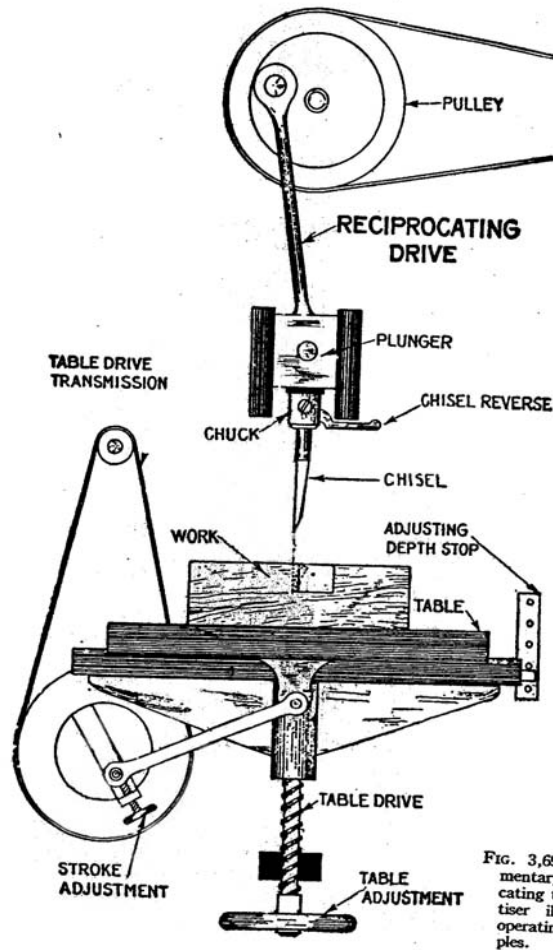
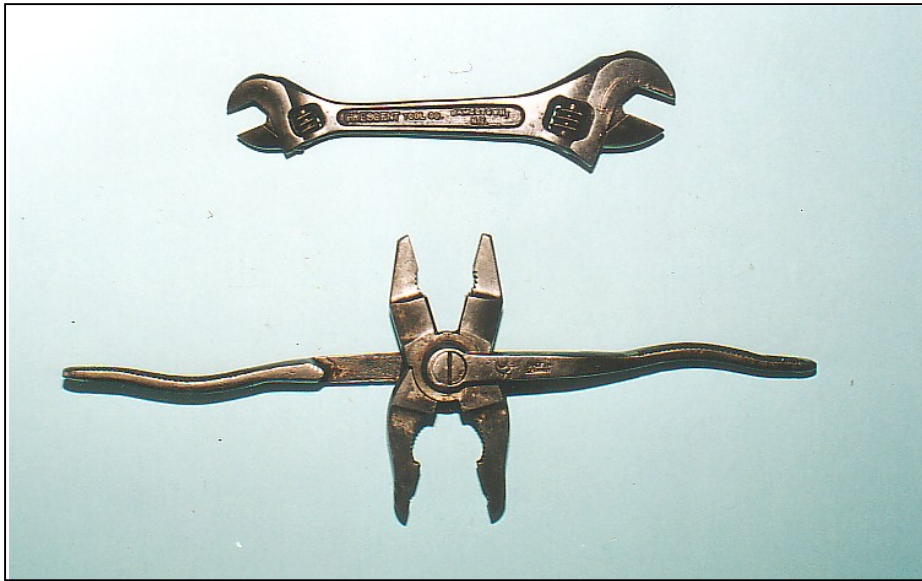
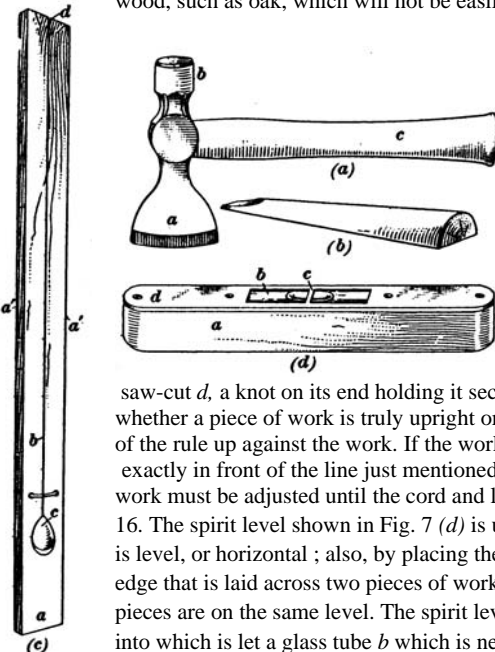
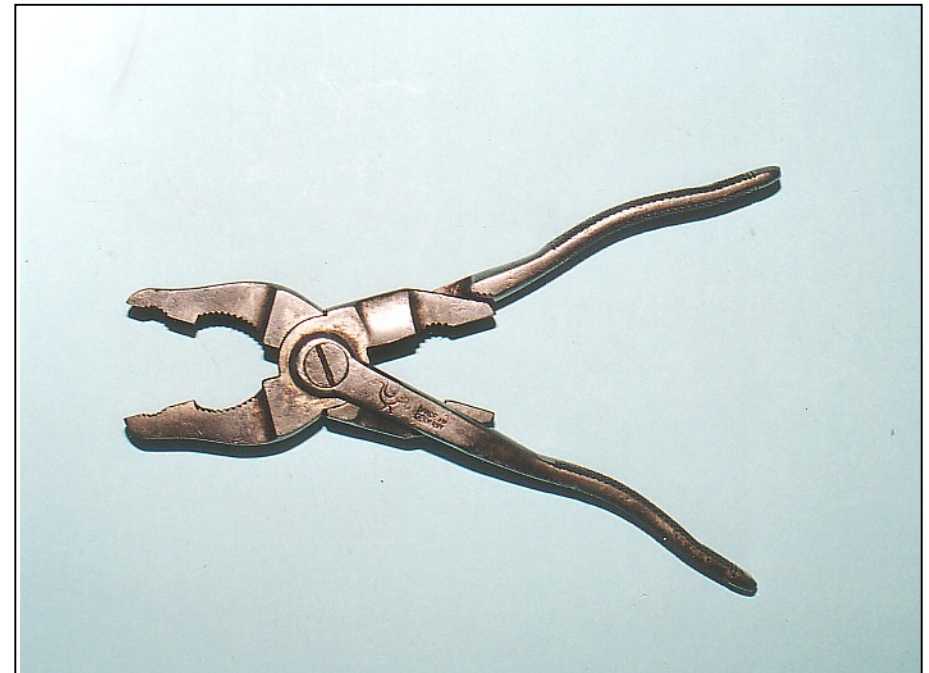

FIG. 3,699. — Elementary reciprocating type mortiser illustrating operating principles.
Fig. 1 Shows comparison between a 6" Crescent Tool Co double ended shifter & the double ended pliers.
FIG. 7
Fig. 2 Shows the jaws set and the handles positioned ready for use.
*Reply*-Pine can be used, but beech, birch, or ash will be worth the extra cost in the long run. In a simple way you might try the arrangement in Fig. 1. It consists of two lengths of 1 1/2 in. board approximately 14 ins. long by 5 to 7 ins. wide, hinged together at bottom ends. The ends can be rectangular here but will be eased in appearance if shaped as dotted line indicates. The chops can be allowed two pieces 10 ins to 12 ins. in length by 2 ins. by 1 1/2 in. The meeting edges of these will be bevelled slightly and also hollowed slightly lengthwise in centre. The top outer edges are bevelled away (Fig. 2) to afford clearance when the file is in use. The shallow curve given to the chops between these ends allows the latter to grip more tightly when placed in the bench vice under compression. Used in this manner a screw will not be required. If the material is available the sides or clamps can be shaped up from thicker timber each in one piece, as Fig. 3. A couple of fillets will serve to retain these clamps in position when between the chops of the bench vice upon which they bed. The type of saw vice illustrated in The Wood worker, April, 1944. is more of the professional kind and a side view of a similar article is given, fig. 4 and 5. The chops can be halved, glued and screwed into position, and are hinged together as before mentioned. This vice is shown with a screw. It is in some cases provided with a leg to extend to ground terminating with a metal nozzle and spike of steel. Travelling saw sharpeners use it. And it is sometimes further equipped with steel stays to fold for portability or open out giving a bearing on the wall by way of resistance to file working. Height with leg would be about 3 ft. 3 ins., the leg itself being similar to that of an iron vice and tapered. The chops can be made up with 1 in. angle iron and a strip of leather on the wood as Fig. 6, to deaden the noise when filing the saw teeth. For emergency purposes where only a table or plain bench with 1 in. top is in use, a clamp that will serve for sharpening purposes of small saws can be made by the use of a length of iron bar fixed to the table edge by a screw and fly nut at each end, Fig. 7.
14. **Tools Used in Scaffolding**-A scaffolder's hammer, or hatchet, is shown in Fig. 7(a). The head has an axe *a* with which the workman is able to shape wedges or do any other necessary work of cutting. The other part *b* of the head is adapted for driving nails and for fixing the members of the scaffold in position. The handle *c* is, as already briefly mentioned, used as a lever for tightening up the cords when two members are being lashed together. A scaffold wedge is semicircular in cross-section, as shown in Fig. 7(b). Such wedges are from 9 to 12 inches long and are roughly shaped from some wood, such as oak, which will not be easily dented when subjected to a heavy pressure
15. The plumb-rule, shown in Fig. 7 (c), consists of a narrow piece of board *a*, from the top of which is hung a cord *b* having a plumb-bob *c* attached to its lower end. The length of the board varies according to the work it is intended for, ranging from 4 to 6 feet; the thickness from  $\frac{1}{2}$  to  $\frac{3}{4}$  inch, and width from 3 to 4 inches. The two edges *a'* of the board must be parallel to each other, and a line is marked lengthwise on the board mid-way between the edges.
16. The spirit level shown in Fig. 7 (d) is used to test whether a piece of work is level, or horizontal; also, by placing the level on the top of a parallel straight edge that is laid across two pieces of work, it may be ascertained whether the pieces are on the same level. The spirit level consists of a hardwood block *a* into which is let a glass tube *b* which is nearly filled with spirits. In this tube is left sufficient air to form a small bubble, which, being lighter than the liquid, will rise to the highest end of the tube when the latter is tilted up. If the tube is level, the bubble will become stationary at the centre of the length; this centre is indicated by the narrow bar *c*. This bar is part of the metal covering plate *d* which prevents the tube *b* from falling out. In the illustration the bubble is shown as it would appear in relation to the bar *c*, if the level were held horizontally.